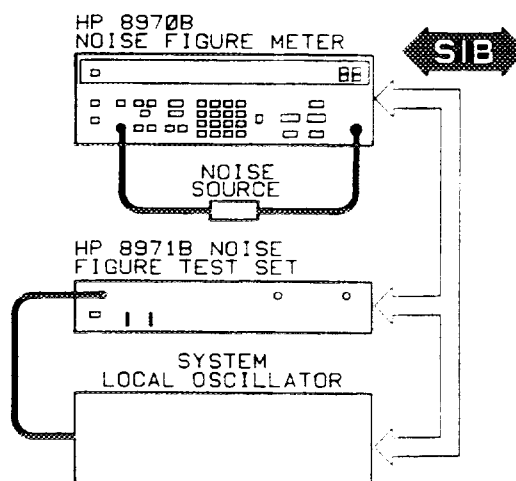

Figure 4-14. Noise Figure and Gain Calibration Test Setup SSB2/SSB3
1. Connect equipment as shown in Figure 4-14.
9. Connect Noise Source to HP 8971B as shown in Figure 4-14. Make sure all other connections are made as shown — including HP-IB connections. Make sure the ENR table is set for the Noise Source (See the HP 8970B Operating Manual for instructions).